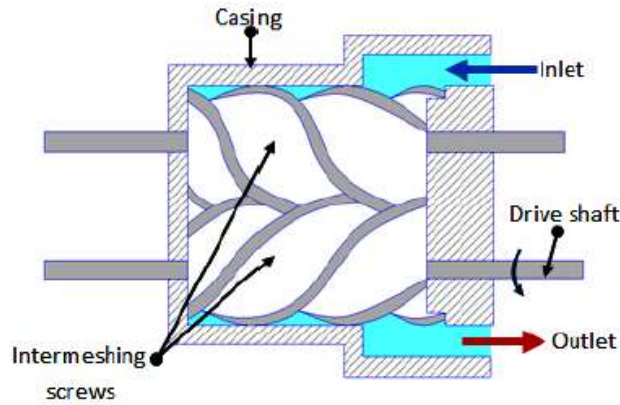

Fig.4.5 Twin screw compressors
- ▶ The construction features of a screw compressor are shown in Fig.4.5. The screw type compressor consists of two mating helically grooved rotors, one male and the other female. The male rotor drives the female rotor. The male rotor has lobes, while the female rotor has flutes.
- ▶ Fig.4.5 shows screw compressor. When the male rotor rotates at 3600 RPM, female rotor rotates at 2400 RPM. The flow is mainly in the axial direction. Suction takes place as the rotors unmesh and delivery takes place as they mesh.